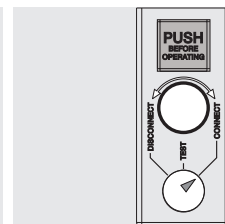

Figure 42
- circuit-breaker in CONNECT position (see Figure 42).